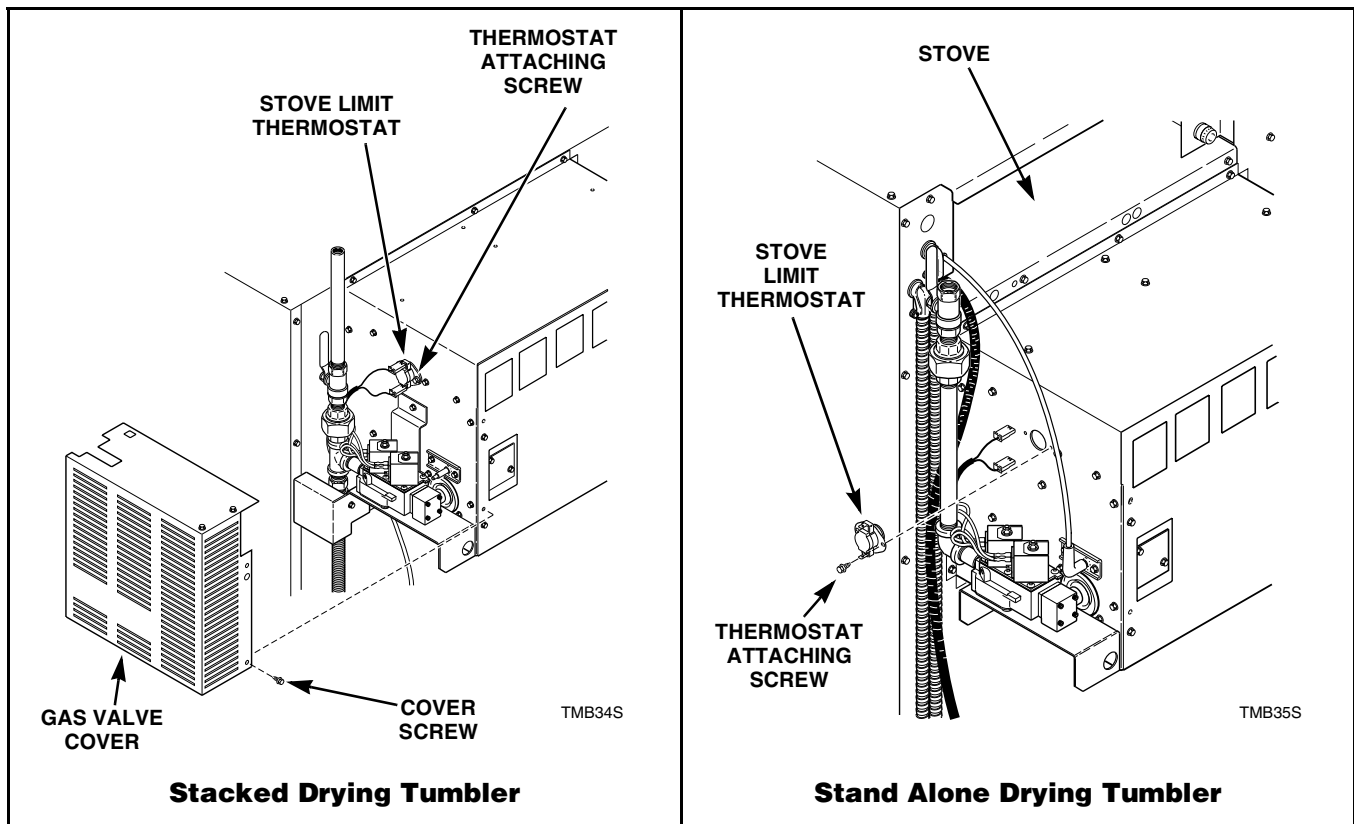

Figure 23
Refer to *Figure 23*.
- a. Remove screws holding gas valve cover to stove and remove cover. Refer to *Figure 23*.
- Remove gas valve cover. Refer to *Figure 23*.